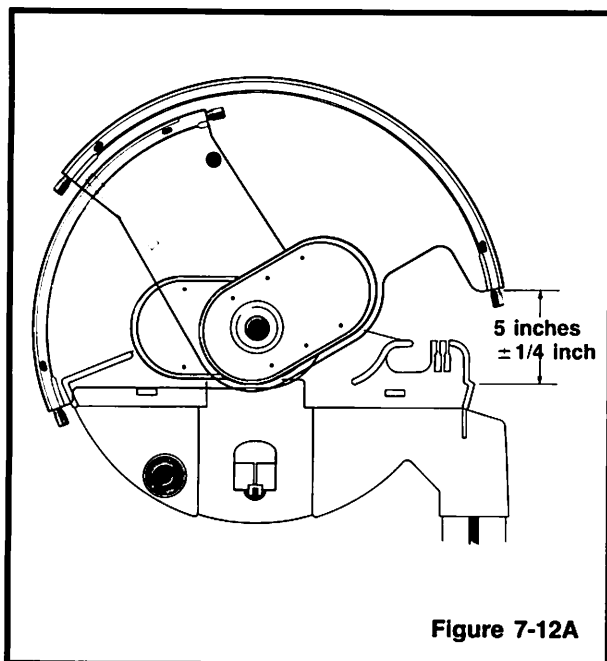

Figure 7-12A
d. The front hood opening in the detent position measures 5 inches \pm 1/4 inch. See Figure 7-12A.